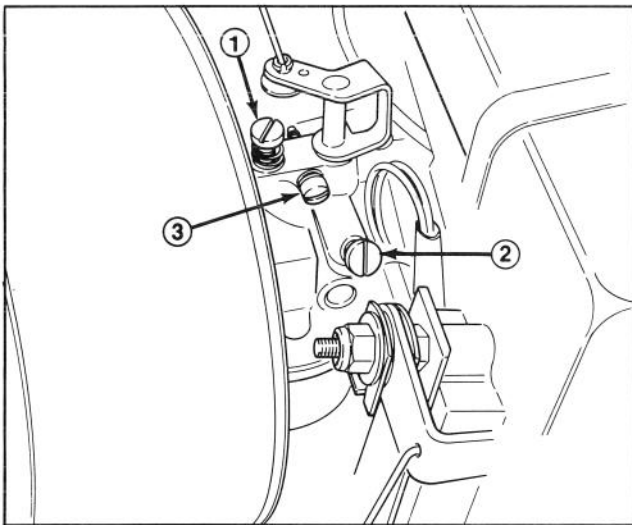

Figure 32
1. Main fuel screw (Fig. 32) — Close screw by gently rotating it clockwise.
3. Idle fuel adjusting screw (Fig. 32) — Close screw by gently rotating it clockwise. Open screw by rotating it 2-1/2 turns counterclockwise.
7. Idle Speed Setting (Fig. 32) — Run engine at half-throttle for 5-10 minutes to warm up. Move throttle to SLOW and set engine speed to 1200 RPM by turning the idle speed adjusting screw clockwise or counterclockwise.